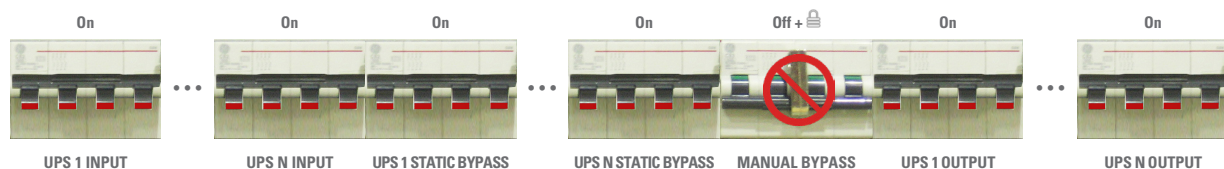

Fig. 16. Position of the bypass panel switches in «Normal operating» (with one UPS only).
- In the illustration of Fig. 16 it is shown the position of the panel switches after doing the manoeuvring of this point